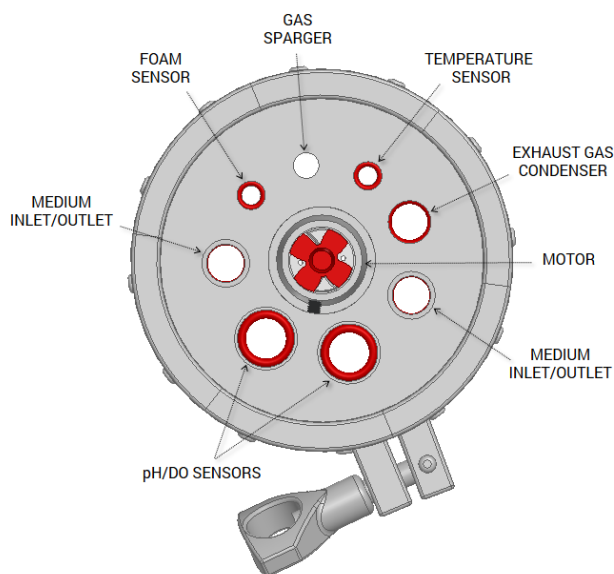
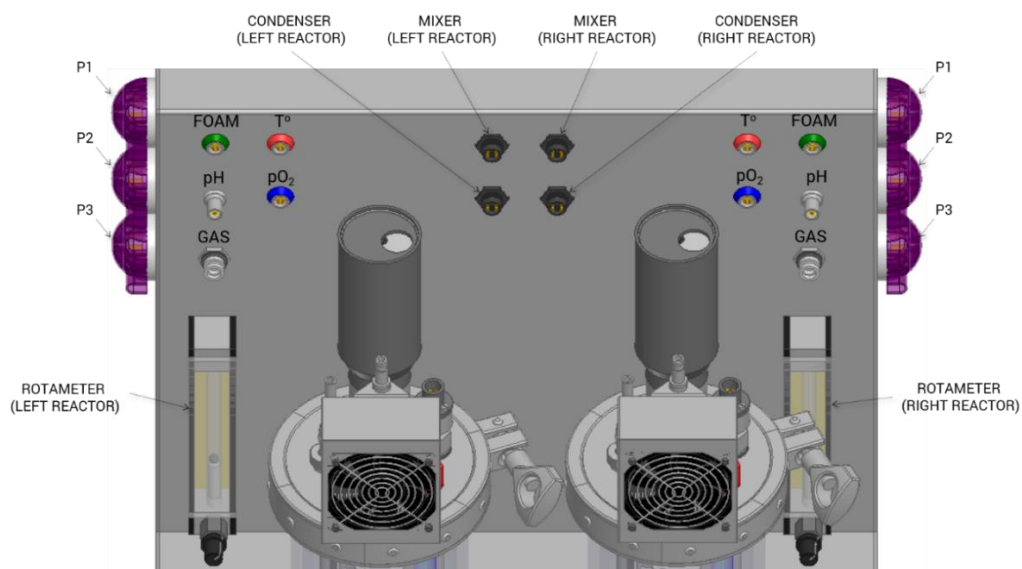

Figure 0.4. Schematic drawing showing the upper lid port layout
Figure 0.10. Sensor and inlet gas connection schematic
After mounting the upper lid and the lid clamp, place the port O-rings in their respective places (see Figure 0.4).
As a part of a standard set-up, the reactor's lid (see Figure 0.4) contains 8 ports for the following:
Insert the pH, Temperature, Foam and pO₂ sensors into the corresponding ports on the upper lid of the bioreactor (see Figure 0.4) and screw them in place until they are firmly attached.
The installation of the exhaust gas tube is performed similarly as in the case of sensors. Screw the exhaust gas tube in the respective port (see Figure 0.4).
After installing the bioreactor vessels on the heat transfer platforms of the control unit, connect the respective inputs and sensors as shown in Figure 0.10.
- 1) Attach the reactor inlet gas tube with an installed inlet air filter according to Figure 0.9 to the control unit's **GAS** outlet (see Figure 0.10). Connect the inlet air tube to the gas sparger port (see Figure 0.4);
- 7) Connect the outlet gas tube with its filter (see Figure 0.9) to the outlet air condenser at the location specified in Figure 0.4;
- 8) Attach **T**, **pH**, **pO₂** and **FOAM** cables to the respective sensors. Then connect them to the control unit's respective ports shown in Figure 0.10;